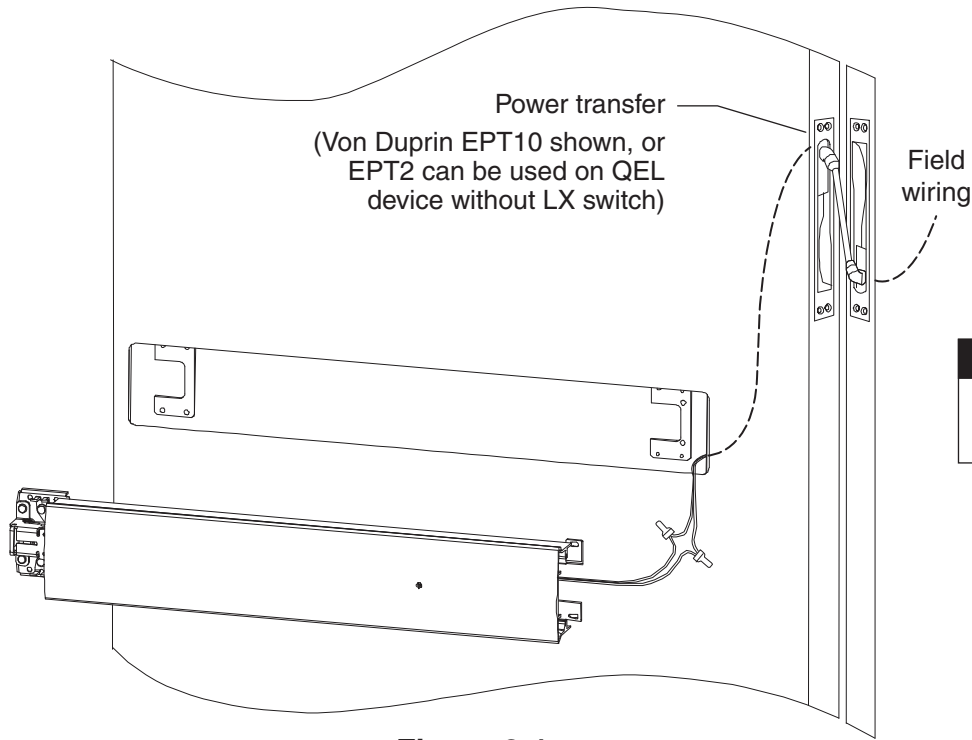

Figure 3-1
- a. Connect field wiring to frame side of power transfer (Figure 3-1).